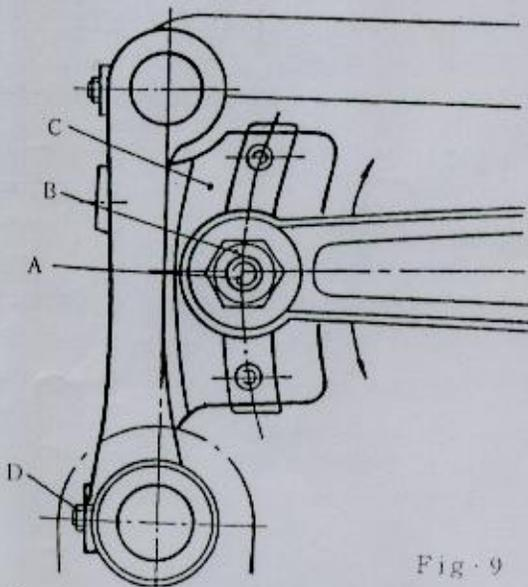

Fig. 9
If feed dog are not in the center in the throat plate slots, loosen screws rear in the feed locker (C, Fig.9), move the feed locker right or left as required. Then retighten screws (D).